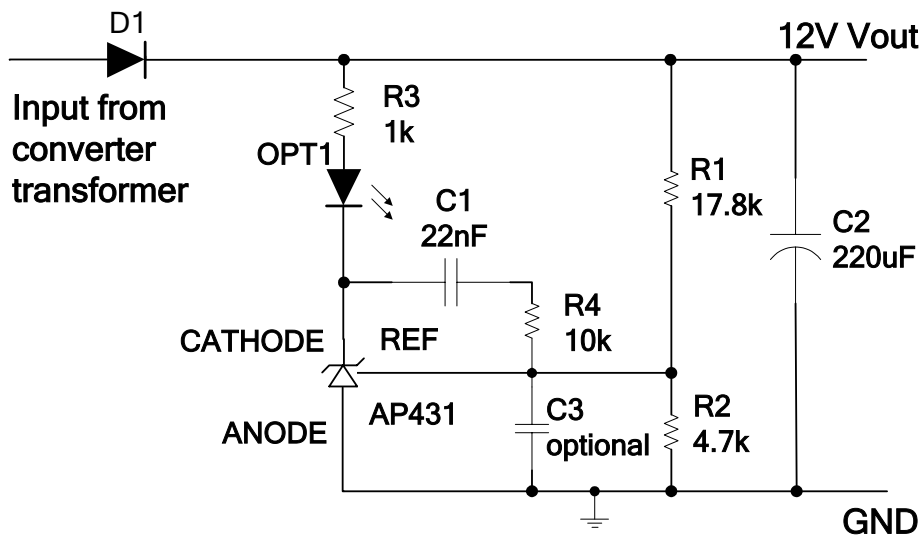

Figure 1: SMPS control/feedback loop
The circuit shown in Figure 1 is commonly used in the control loop of switch-mode power supplies. The output voltage is sensed via R1/R2 by the AP431 and the IC controls the current passing through an opto-coupler and hence feeds back output voltage status to the switching regulator. The minimum supply voltage at which this popular circuit can be used is set by the minimum cathode voltage of the regulator IC plus the forward voltage drop of the opto-coupler LED. With AP431's minimum cathode voltage of 2.5V, and 1.2V voltage drop of the opto-coupler, the circuit is not viable below 4V output voltage.
- 2.2 For stable operation in switch-mode power supply with 12V output(fig. 1), output ripple voltage is around 100mV ripple voltage. REF voltage is regulated to 2.5V with about 20mV ripple voltage. Since REF voltage is over than 2.1V, the control circuit works normally to regulated output to target voltage.